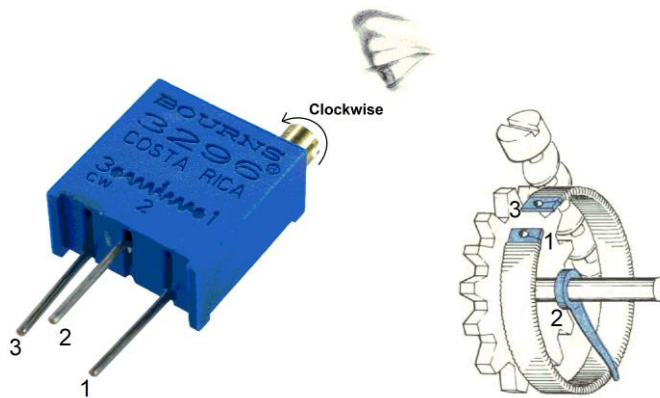

Figure 2: The internal structure of a 20-turn potentiometer.
Last week you soldered in a pair of 20-turn potentiometers, a $1k\Omega$ and $100k\Omega$ like that shown in the left side of Figure 2. Look closely at the notation imprinted on the surface of the potentiometer in Figure 2 and you will see the letters “CW” printed next to the number 3. This means that as you turn the brass adjustment screw in a ClockWise (CW) direction the center tap (terminal 2) moves closer to the left pin (terminal 3). This is accomplished using a worm drive mechanism; the brass adjustment screw engages a gear attached to the center tap. The geared center tap moves around the carbon track connecting terminals 1 and 3. The worm drive acts like a gear reduction; this means that you need to rotate the brass adjustment screw 20 times to move the center tap from terminal 1 to terminal 3 (or vice versa). Note that the rotating the brass adjustment screw CounterClockWise (CCW) moves the center tap towards the right pin (terminal 1).